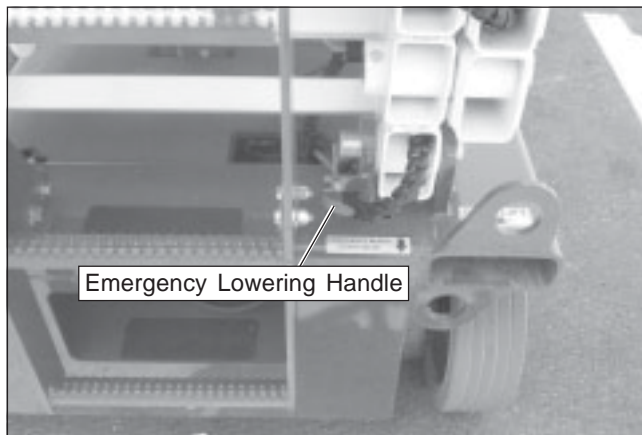

Figure 11.1 – Rear of Chassis
2. Locate the emergency lowering handle at the rear of the aerial platform (refer to Figure 11.1).